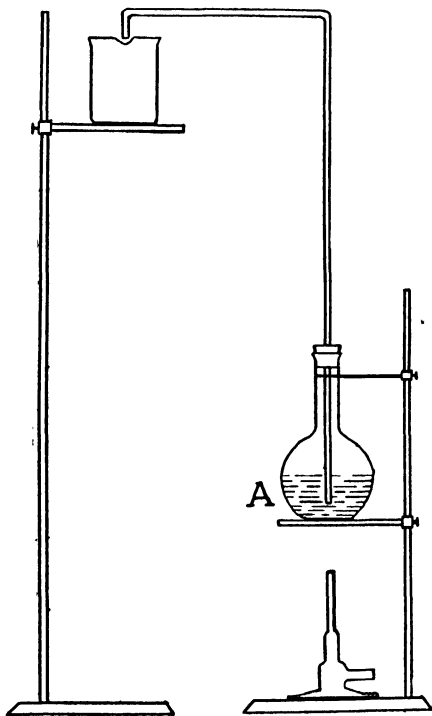

FIG. 74.
**Two Experiments.**—1. That heat is energy and can be made to do work may easily be shown by arranging apparatus as shown in Fig. 74. As the water in flask A is heated, the vapor and air above it expand and pressing